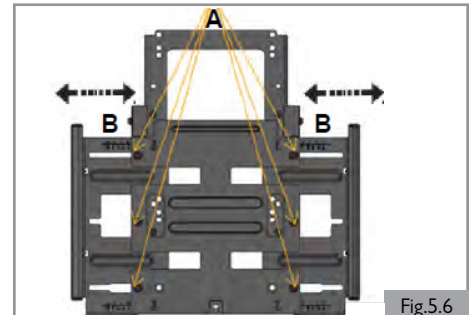
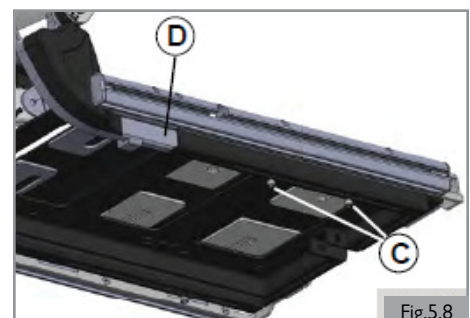

Fig.5.6
Fig.5.8
Seat plate width (Fig. 5.6 - Fig. 5.8)
1. Loosen (A) and (F) by one turn.
2. Adjust (B) to the desired position. (Fig. 5.6)
3. Tighten (A) and (F). See section 9 for specified torque values.